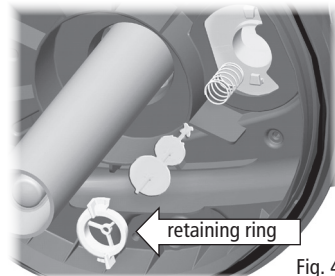

Fig. 4
11. If necessary clean the Cleaning Indicator (U) after disassembling it as follows (the Mode Selector Switch (V) must be set to the "Filtering Mode" position): 1) remove the retaining ring by rotating it counter-clockwise, 2) remove the indicator and its spring. Rinse all parts in water and reassemble them with care (Fig. 4 - Fig. 5).
12. Inspect and clean the two Cleaning Blades (L) and the guide rods. If necessary, replace the blades with new ones. Each blade can easily be detached from the guiding rod by unscrewing the screw in the middle.
14. Reassemble the unit with care. Make sure that the biological filtration media does not interfere with the foam support frame (N) and that the frame is refitted correctly.